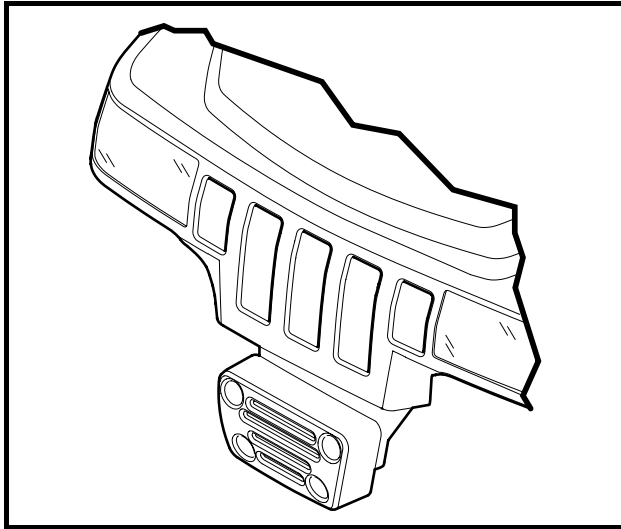
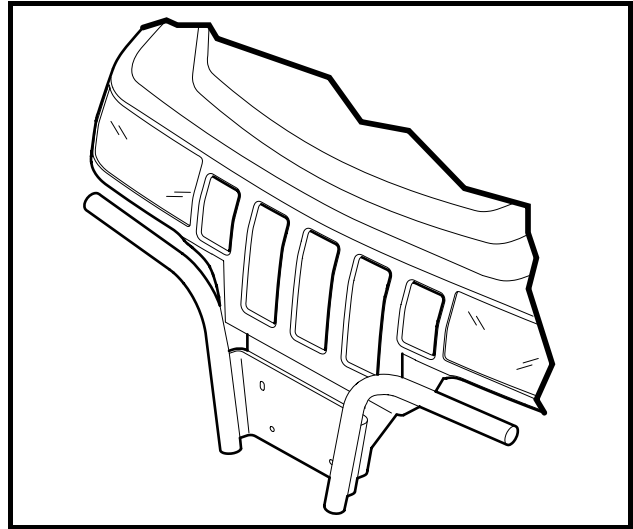

Figure 3 Bumper
Figure 4 Brush Guard
- Do not operate the vehicle without an installed front bumper or brush guard that is specifically designed and approved for use on this vehicle. Instability in the vehicle could cause serious injury or death (Figure 3 and Figure 4).
The front bumper and brush guard are an important part of the vehicle's design for correct weight distribution. These parts are interchangeable, but one or the other must be installed at all times during vehicle operation to achieve proper balance (**Figure 3 and Figure 4**). See following **WARNING**.